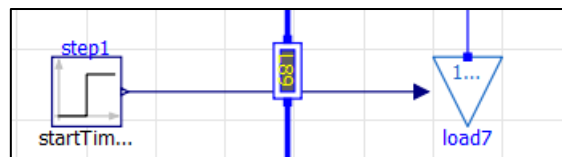

Figure 11: Scaled load
4. Connect it to the input of load 7 (new scaled load) and set the height as 0.3. Set offset as 1 and start time as 50. This is shown below in *Figure 11*.